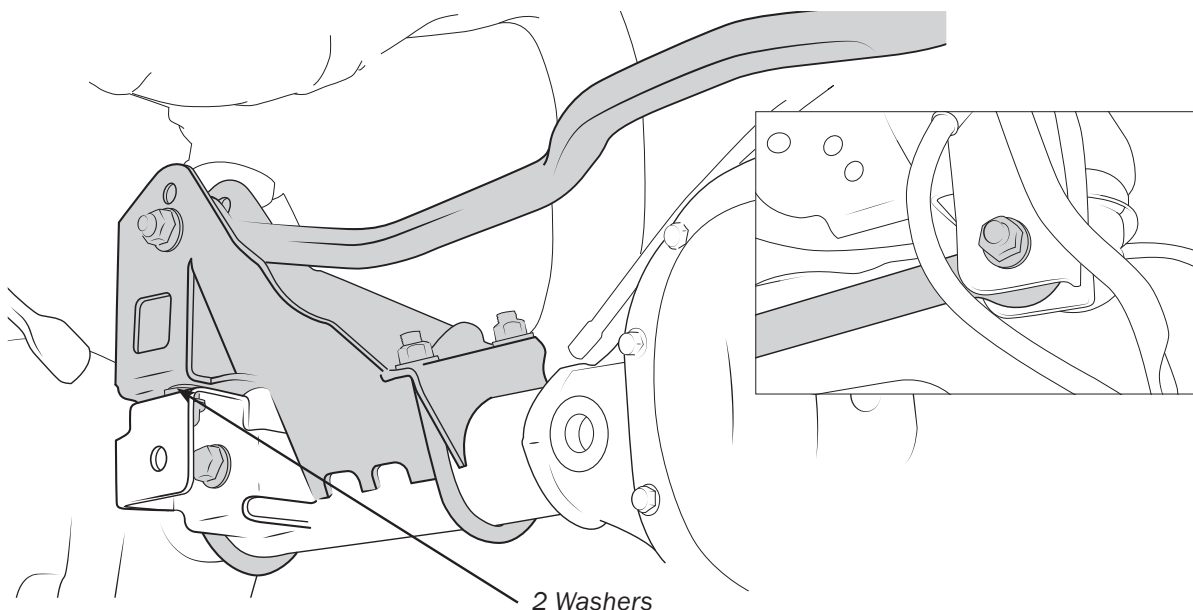

Figure 6
- C. Install the track bar tower with the supplied hardware in the orientation shown. Use 2 of the 1/2" washers as spacers as shown (Fig. 6). DO NOT TORQUE THE U-BOLTS TO MORE THAN 40 ft-lbs.
12. Install the new rear track bar hand tight as shown. This will be tightened later at ride height. (Fig. 6). NOTE: The trackbar bolts will be reinstalled in the opposite direction from factory (B.) Use the lower mounting hole for 3.5" suspensions (shown) and the upper for 4.5" suspensions.